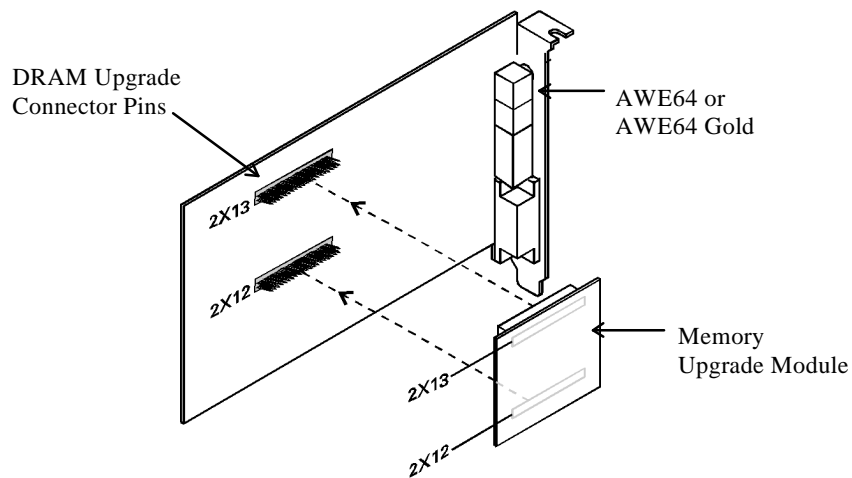

Figure 1 : Mounting the memory upgrade module
4. Mount your memory upgrade module onto the audio card, as shown in Figure 1.